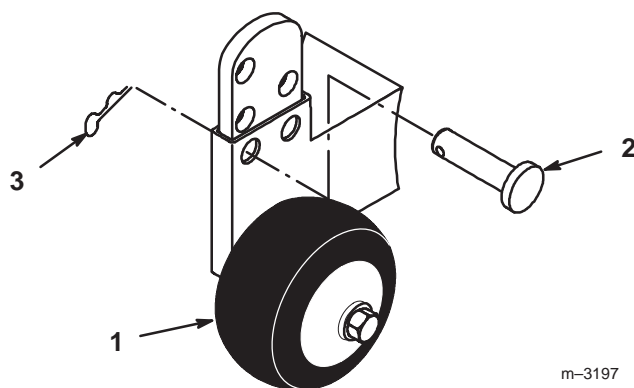

Figure 19
2. Remove hairpin cotter and pin to change hole location (Fig. 19).
3. Select a hole position so the gage wheel is 3/8 in. (9.5 mm) off the ground for the height-of-cut to be used (Fig. 19).